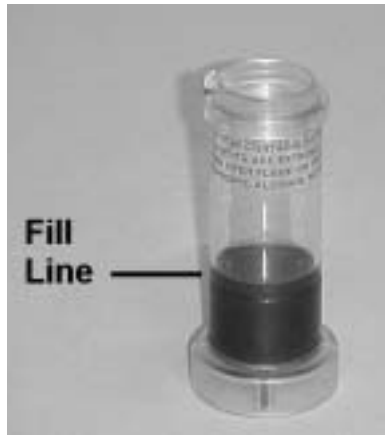

Figure 2-4: Alcohol Fill Capsule
4. Squeeze alcohol into the alcohol fill capsule until the liquid level is even with the scribed fill-line near the base (Figure 2-4). Recap the alcohol bottle.